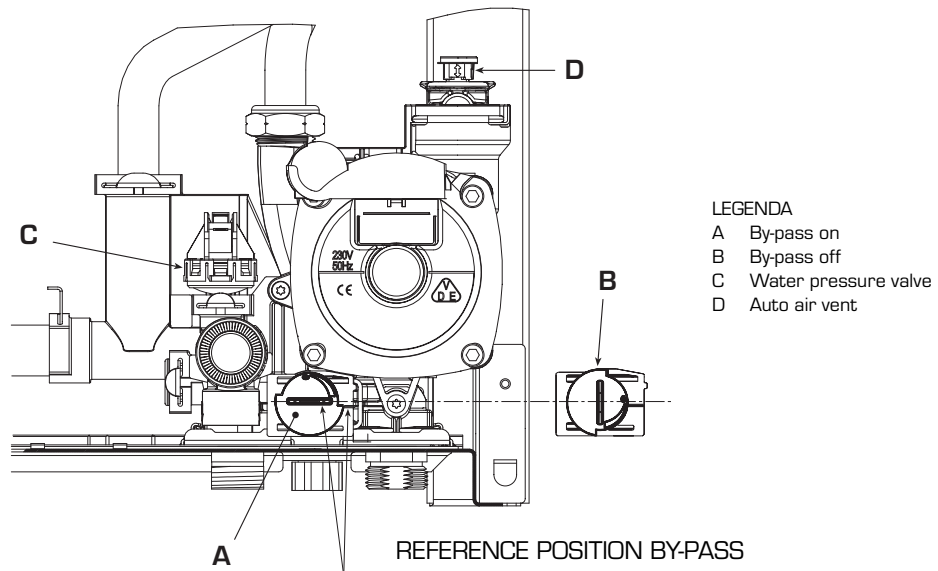

Fig. 15
3.7 HEAD AVAILABLE TO SYSTEM (fig. 14 - fig. 15)
To obtain the maximum head available to the system, turn off the by-pass by turning the union to the vertical position (fig. 15).
3.8 WATER PRESSURE SWITCH (fig. 15)
The water pressure switch (C fig. 15) intervenes, blocking burner functioning, if it detects that there is insufficient pressure in the boiler (< 0,6 bar).